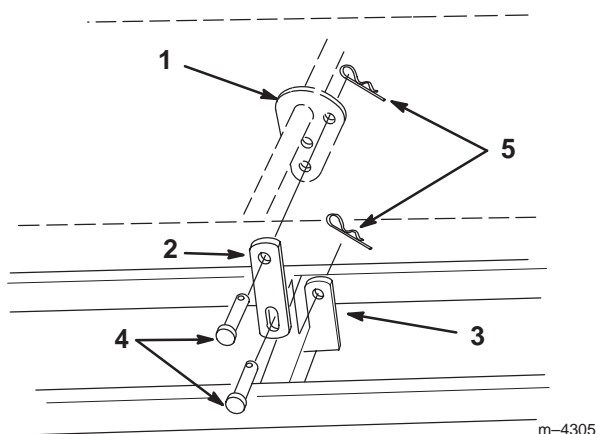
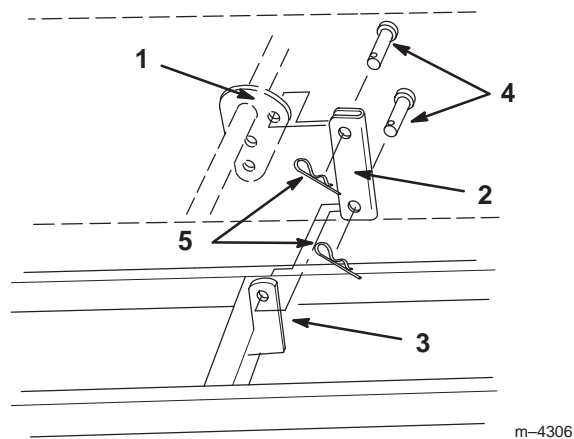

Figure 11
Figure 12
14. Now attach the blade frame to the mid section of the tractor by connecting the lift link to the blade frame and the lift attachment plate from beneath the tractor (Fig. 11 & 12).
- A. Select the correct lift link for your application. The slotted link is the best choice for most applications, because it allows the blade to rise and fall over uneven or rough terrain (Fig. 11). Select the two-hole lift link for evenly dozing smooth, loose surfaces (Fig. 12).
- B. Connect the hole in the lift link to the upper front hole in the attachment lift plate with the proper two clevis pins and two medium hairpin cotters (Fig. 11 & 12).
2. Remove the two clevis pins and hairpin cotters securing the lift link between the blade and tractor attachment lift (Fig. 11 & 12).